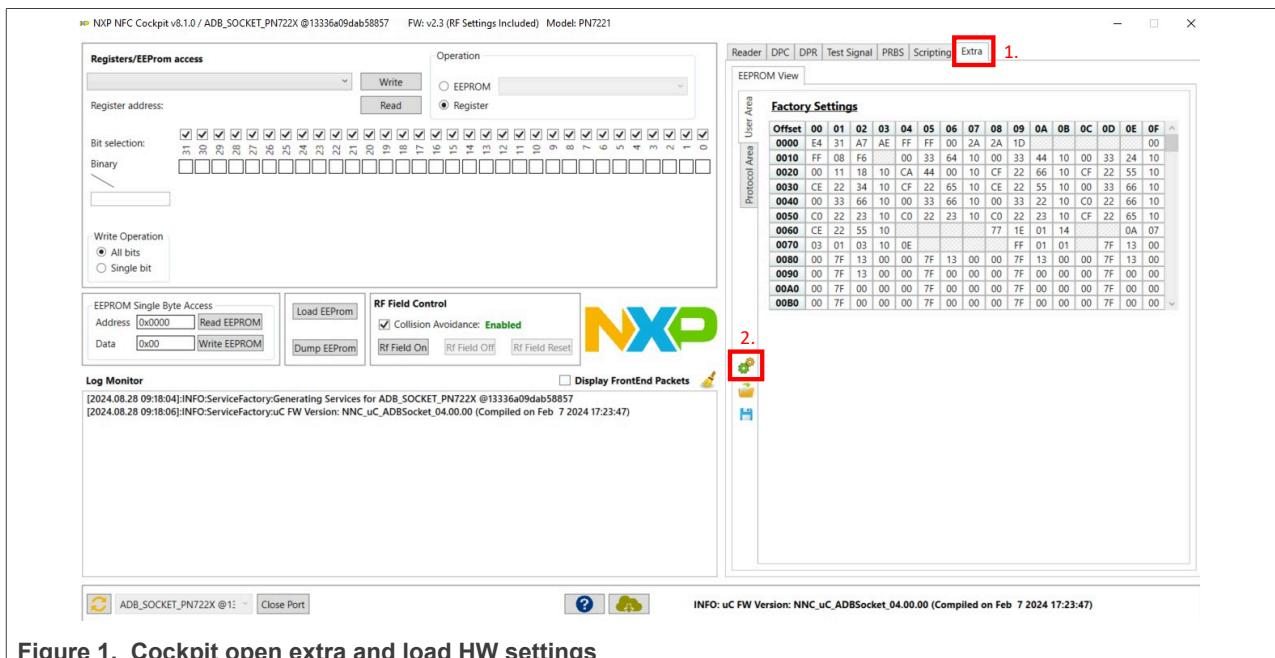

Figure 1. Cockpit open extra and load HW settings
1. Open the NFC Cockpit and click "1." and then "2." in Figure 1 .